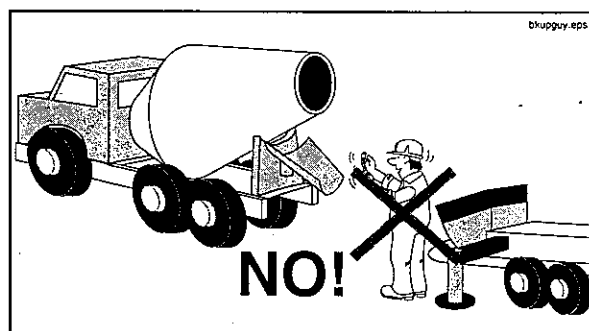

Figure 66
- 16.3 **⚠ WARNING!** Crushing hazard. Never, ever position yourself between the ready mix truck and the pump! Stand to the side, where the driver can see you (Figure 66).